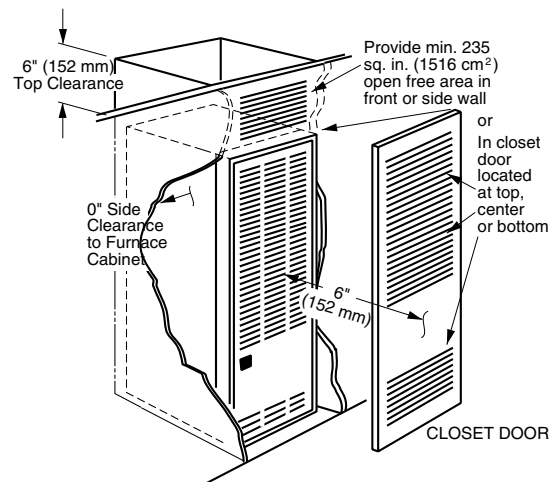
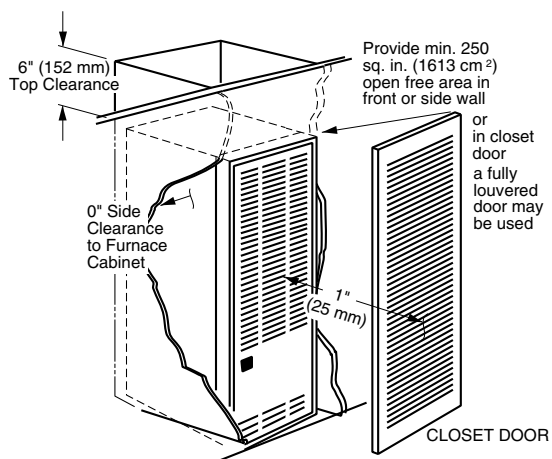

Figure 3. Closet Installation
Figure 4. Special 1" Clearance
- b. Closet installations must use a louvered door having a minimum free area of 235 sq. in. when located 6" from furnace (See Figure 3) or 390 sq. in. for 5 ton ready M1 furnaces. For special clearance between 1" and 6", requirements are a louvered door with a minimum of 250 sq. in. free area, with the openings in the closet door in line with the louvered openings in the furnace door. A fully louvered closet door may be used (See Figure 4 and section 7.i. to evaluate compliance with this requirement).